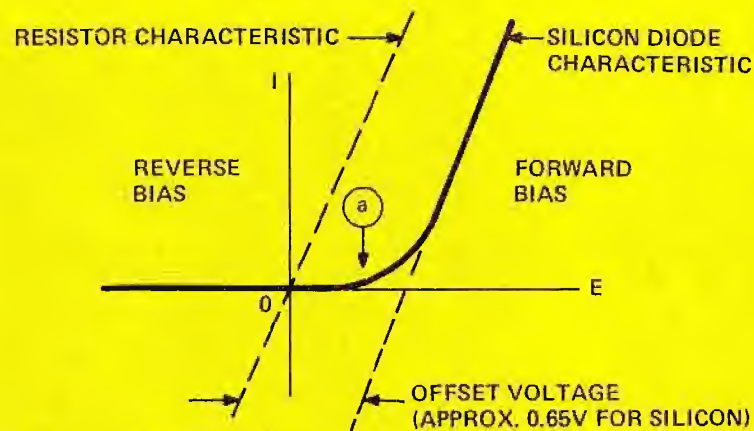
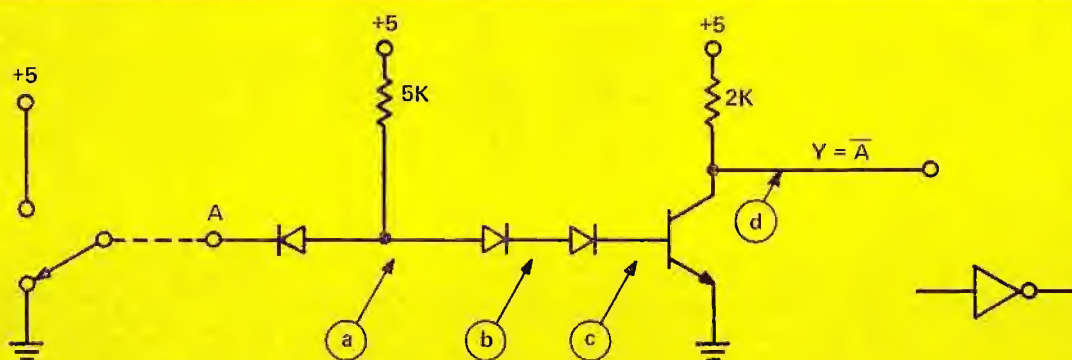

Figure 16. Silicon Diode Characteristic.
Figure 17. Prototype DTL Inverter.
A brief review of some of the properties of silicon p-n junctions is appropriate before we look at specific DTL circuits. The current-versus-voltage characteristic for a silicon junction is shown in comparison with a simple linear resistor in Fig. 16. When the silicon diode is reverse-biased, the current flow is negligibly small (for present discussion
A prototype inverter circuit is shown in Fig. 17. The steady-state performance characteristics of this circuit are quite easy to analyze if one recognizes that the circuit is intended to respond to only two basic levels at its input—either 0 or nominally +5 volts. The allowable input conditions may be simulated, therefore, by the SPDT switch shown at the left of Fig. 17. If terminal A is grounded, the input diode is forward-biased by the flow of current from the +5-volt supply through the 5K resistor, and the voltage at point (a) is pulled down to 0.7 volts. The two diodes in series with the base lead for the transistor have electrical properties virtually identical to those of the base-to-emitter junction within the transistor (since all p-n junctions in the integrated circuit are fabricated at the same time within mils of each other). Hence the 0.7 volts at point (a) will be divided evenly across three junctions, providing a potential of 0.47 volts at point (b) and 0.23 volts at point (c). The +0.23-volt bias at point (c) is below the value designated (a) in Figure 16, and is thus too small to turn on the transistor. Since the transistor is cut off, there is no voltage drop across its 2K load resistor, and the output terminal (Y) is at the logic HIGH level of +5 volts. We have shown, therefore, that a logic LOW at the input terminal of the inverter leads to a logic HIGH at the output terminal.